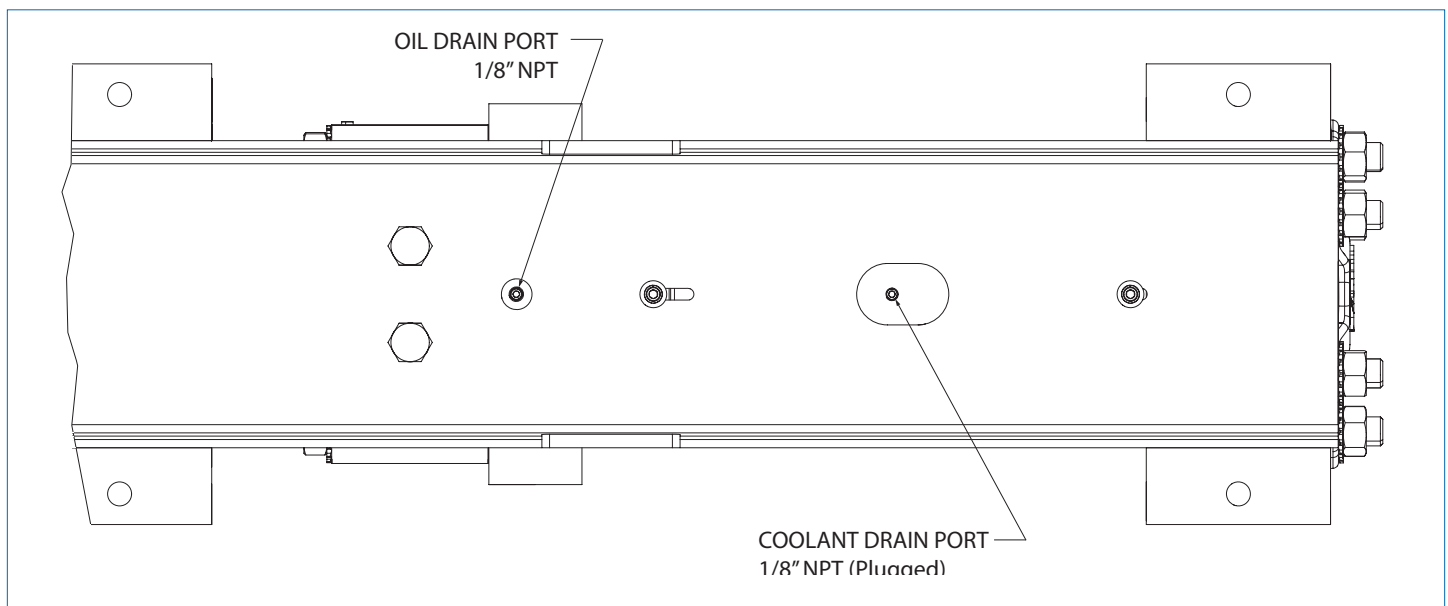

Figure 28: Hydraulic oil and Coolant Drain Locations (Bottom View of Booster).
Checking for hydraulic oil leaks at the booster is essential to ensure your system operates within the design requirements. Reference Figure 28 for hydraulic oil drain port location. The hydraulic oil drain port should never be plugged during normal operation.
2. Visually inspect oil drain ports or lines for leaks (**Reference Figure 28, gas and hydraulic energy sources.**).